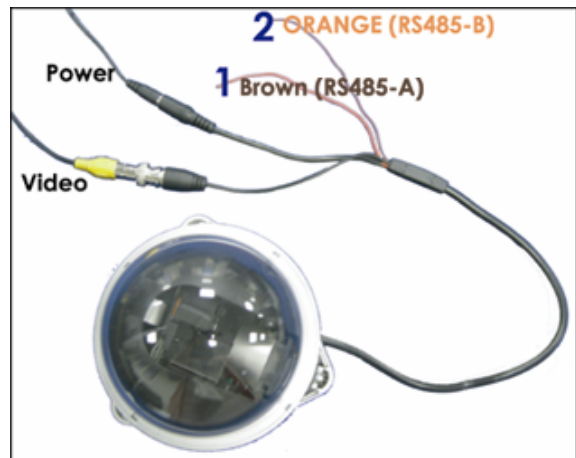

Figure 5: Example of RS485-A and RS485-B wires
Step4: Find the RS485-A and RS485-B wires from your speed dome camera (*Figure 5*). For details, please check your camera’s user manual.
Step4: Find the RS485-A and RS485-B wires (*Figure 5*) from all your speed dome cameras. For details, please check your camera’s user manual.